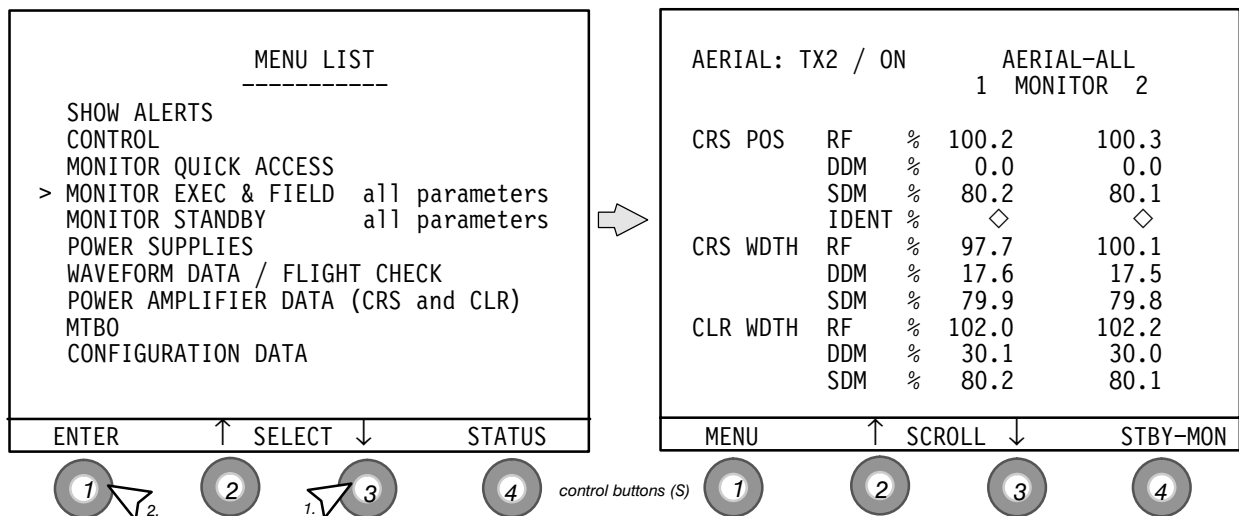

Fig. 3–16 MONITOR EXEC. & FIELD select and Monitor Exec. & Field window (example)
- S4 STBY–MON to go to Monitor Standby window (see Fig. 3–17)